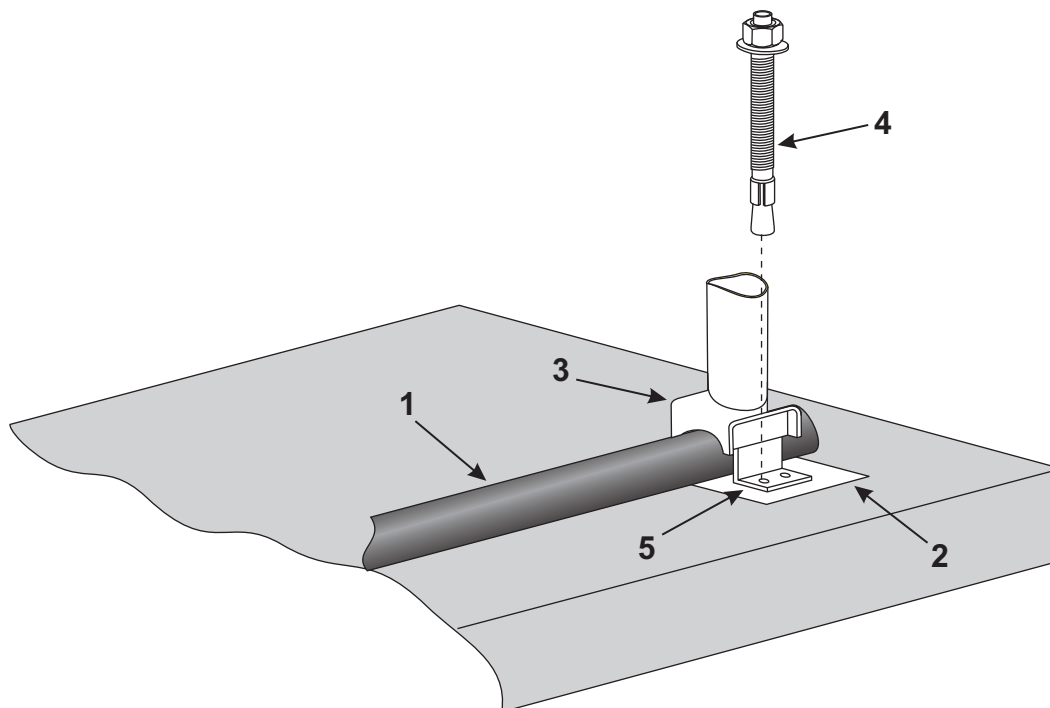

Figure 4-4– Securing the silo
2. Position the silo so that the silo legs (1, Figure 4-4) and mounting brackets (3, Figure 4-4) land on the embedded weld plates (2, Figure 4-4).
3. Secure the silo to the mounting plate by either using concrete anchor bolts (4, Figure 4-4) or welding to the mounting bracket (5, Figure 4-4) to the embedded weld plates.